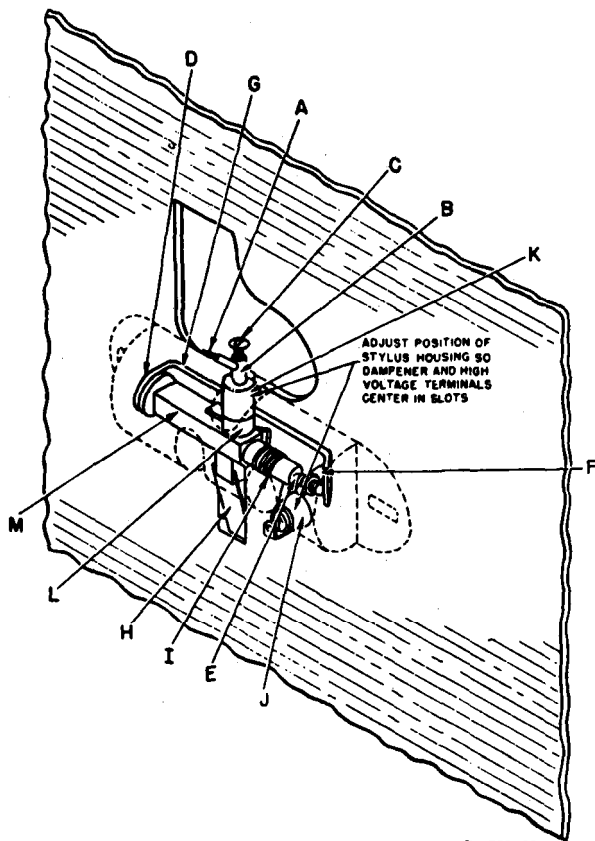
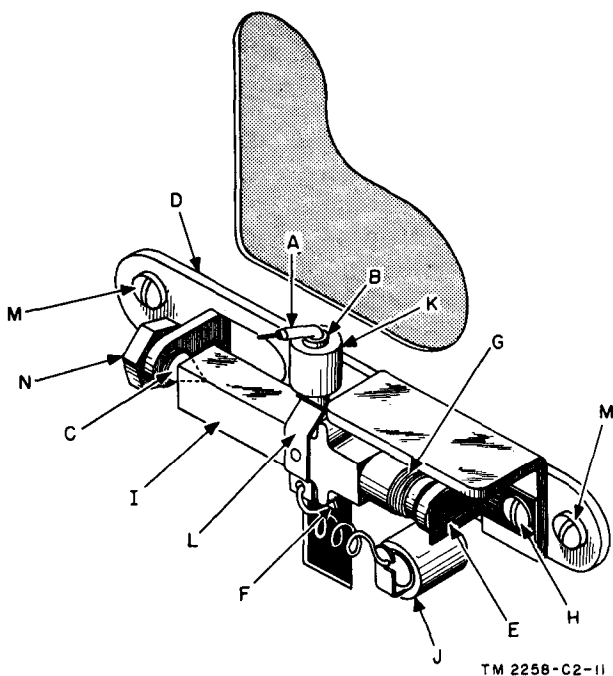

Figure 125. Stylus holder assembly, Facsimile Transceivers TT-1/TXC-1, TT-1A/TXC-1, and TT-1B/TXC-1.
Figure 127. Stylus holder assembly, Facsimile Transceivers TT-1D/TXC-1, TT-1E/TXC-1, and TT-1F/TXC-1.
c. Stylus Actuating System. After working the switch, be sure that the adjustments of the stylus actuating system are not upset. If the stroke is too long, make correction by bending the actuating arm attached to the selector switch. The stylus holder assembly for Facsimile Transceiver TT-1/TXC-1 through TT-1C/TXC-1 is shown in figures 125 and 126. Figure 127 shows the stylus holder assembly for Facsimile Transceivers TT-1D/TXC-1, TT-1E/TXC-1, and TT-1F/TXC-1.
d. Stylus Holder Assembly, Facsimile Transceivers TT-1/TXC-1, TT-1A/TXC-1, TT-1B/TXC-1, and TT-1C/TXC-1, Parts Description (figs. 125 and 126).
e. Stylus Holder Assembly, Facsimile Transceivers TT-1D/TXC-1 and TT-1E/TXC-1, and TT-1F/TXC-1, Parts Description (fig. 127).
There are two adjustments that can be made to the stylus holder in these models (fig. 127).